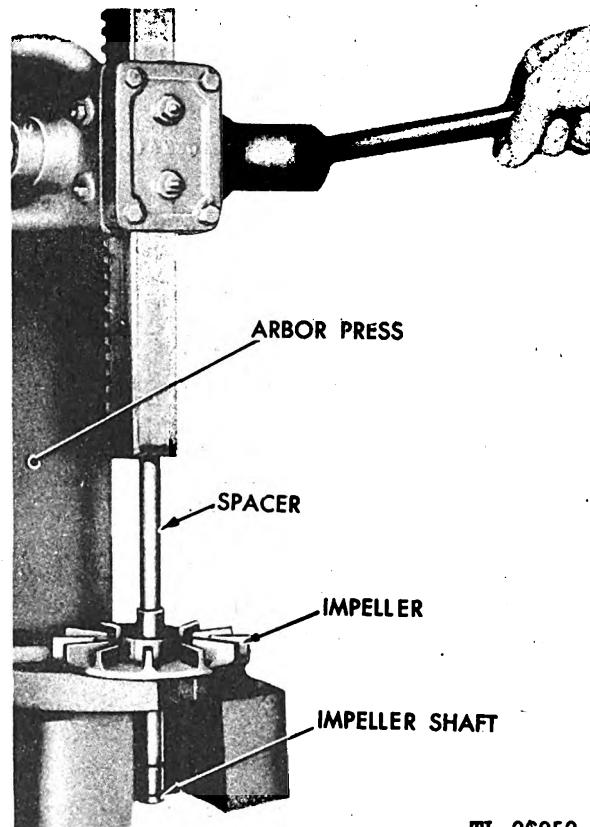

Fig. 201. Pressing Shaft Out of Impeller
(6) If the impeller or shaft needs to be replaced, the shaft can be removed from the impeller as shown in Figure 201. The shaft has an integral snap ring or machined collar which fits into a machined recess in the impeller; consequently, the shaft can only be pressed out one way; that is, the short end of the shaft must be pressed through the impeller. (See Figure 201.)